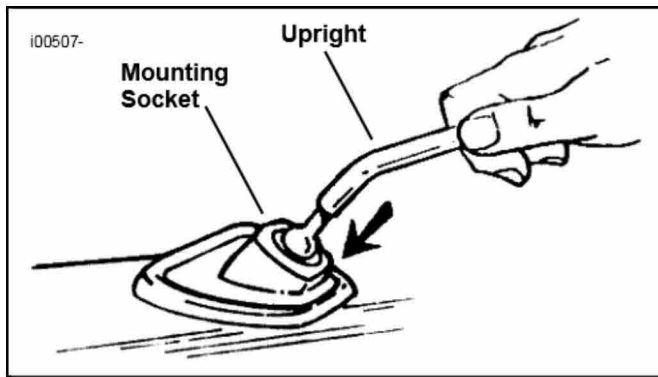

Figure 3. Upright and Mounting Socket
5. See Figure 3. Position windshield's upper mounting socket on a non-abrasive flat surface. Lubricate socket with water or saliva. Do not use oil, grease or silicone. Firmly press ball end of upright into upper socket, left and right side. Ball will snap into place.